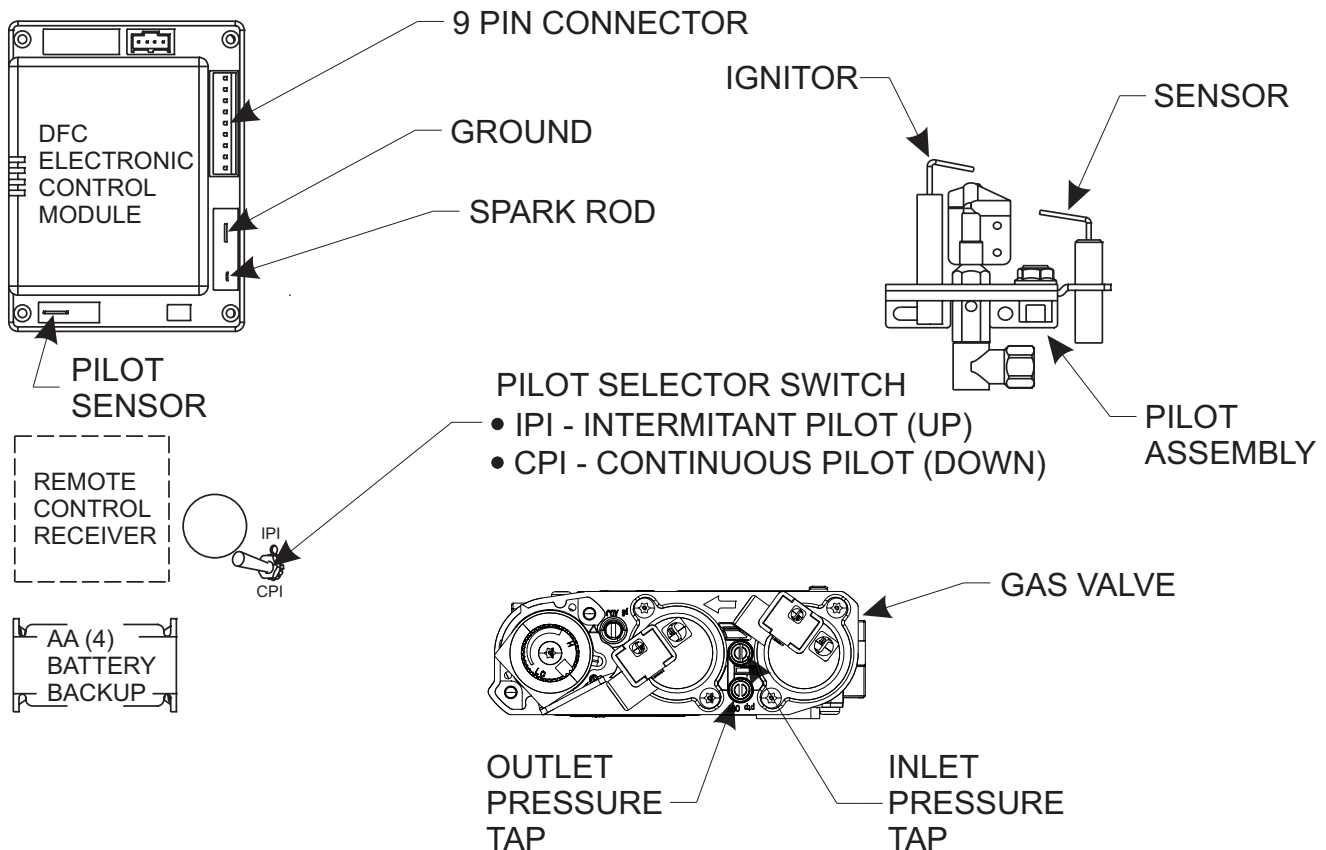

Figure 25
Note: A small toggle switch is located on a bracket that is used to switch from IPI (upward position) to the CPI (downward position). See Figure 25.
3. The gas valve has inlet and outlet pressure taps as shown in Figure 25. Refer to page 11 for gas pressure requirements.
Note: The gas control has a manual HI/LO flame adjustment knob (regulator) that allows you to increase or decrease the height of the burner flame. See Figure 25. Rotate the HI/LO knob counterclockwise to "HI" to increase the flame height, and clockwise to "LO" to decrease the flame height.
Optional remote controls are available for use with this appliance. To connect the remote receiver to the appliance, first disconnect the ON/OFF switch wires from the white and green wire connectors and connect the wires from the remote receiver to the green and white wire connectors. See Figure 25.